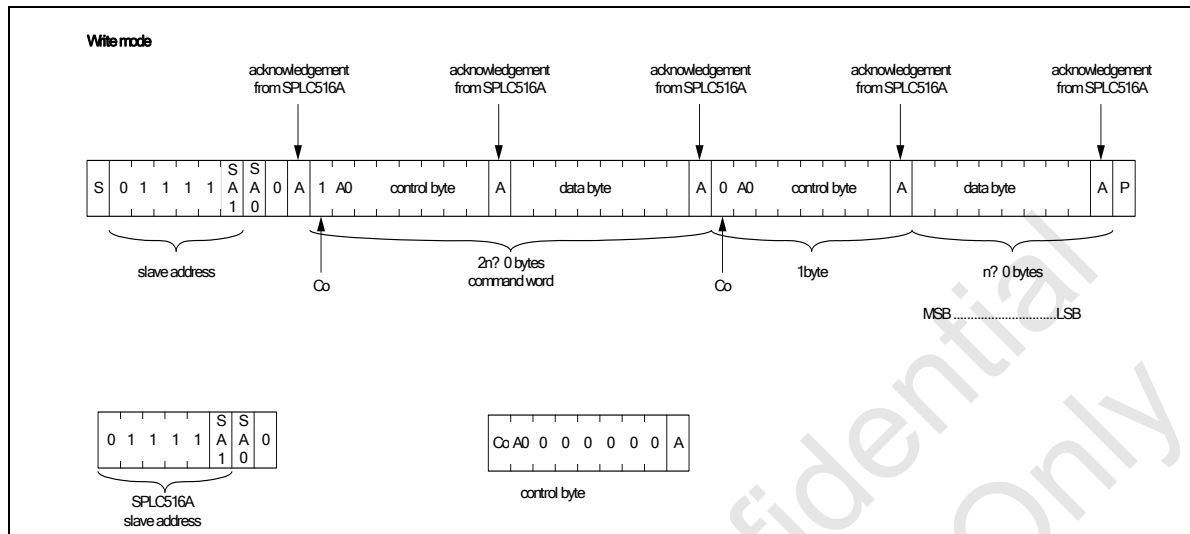

Figure 5-9 I²C interface protocol
The sequence is initiated by a START condition (S) from the I²C -bus master. After the START condition procedure is done. The slave address will be transmitted. All slaves with the corresponding address acknowledge in parallel, and all others will ignore the I²C -bus transfer. After acknowledgement, one or more command words follow which define the status of the addressed slaves. A command word consists of a control byte and a data byte. In control byte, the first two bits described Co and A0 respectively (see Figure 5-9).